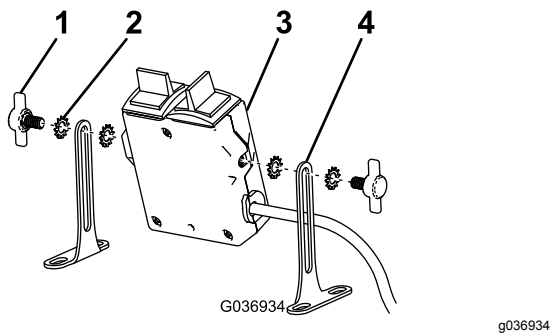

Figure 3
3. Attach the mounting brackets to the controller using 4 star washers and 2 thumbscrews (Figure 3).